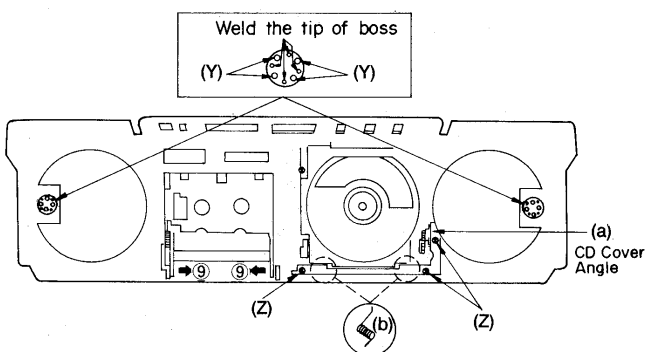

Fig. 9
- (*6) When replacing the tweeter, attach the tweeter to the front cabinet by welding it to the remainder of the boss. (Fig. 9)